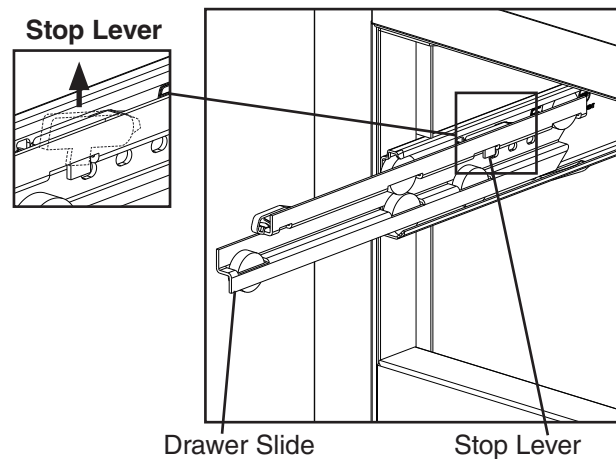

Fig. 40
- **To remove a drawer slide (center slide containing rollers):** Push up on the stop lever while pulling on the drawer slide. See Fig. 40. Drawer slides do not require lubrication, but drawer slides should be kept clean and free of food.